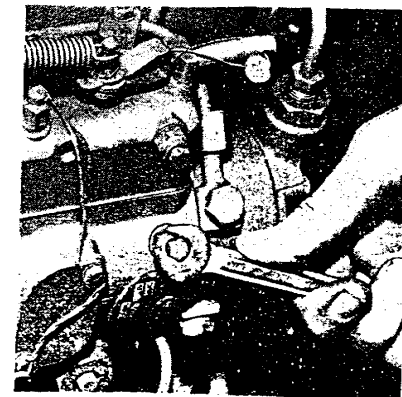

Fig. 5.
2. Slacken vent valve fitted on one of the two hydraulic head locking screws (see fig. 5).